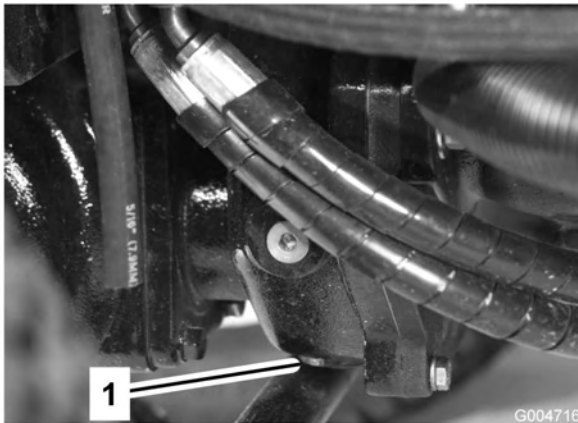

Figure 59
5. Clean the area around the drain plug on the bottom of the gear box (Figure 59).